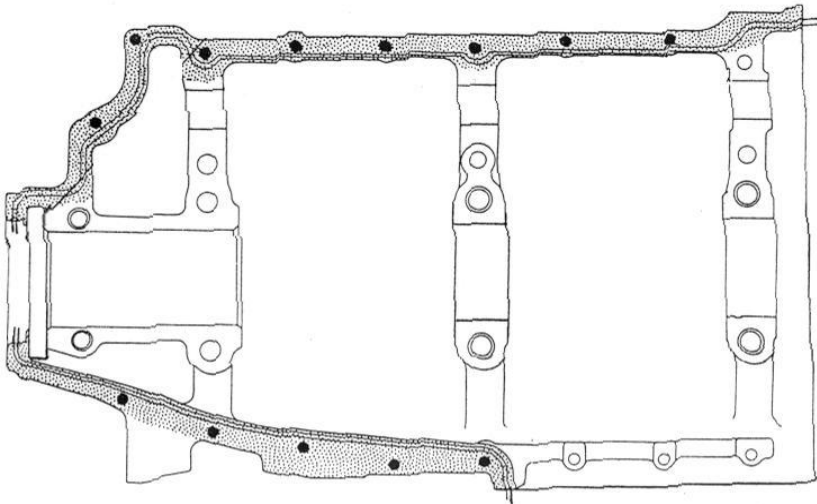

Figure 70
- (1) Apply a thin layer of non-hardening gasket material such as POB #4 Perfect Seal gasket compound or equivalent to the outside mating surfaces of each crankcase half (darker area shown in Figure 70.)
- (2) Measure and cut a total of four continuous lengths of "00" silk threads (four for only one crankcase half). Two of the lengths will extend along the entire length of the top of the crankcase flange as shown in Figure 70, and two silk thread lengths will be shorter to cover the distance shown on the bottom flange of the same crankcase half. Do not apply silk thread pairs to both crankcase halves.
⚠ CAUTION: TO ENSURE CORRECT SEALING, MAKE SURE THE SILK THREADS RUN THE LENGTH, AS A CONTINUOUS PIECE, OF THE INSIDE OF THE CRANKCASE FLANGE (FIGURE 70) AND THERE ARE NO BREAKS IN THE ANY OF THE THREADS. BREAKS IN THE SILK THREAD CAN CAUSE THE CRANKCASE TO LEAK. MAKE SURE THE THREADS DO NOT CROSS OVER OR LAY OVER EACH OTHER (FIGURE 71) OR COVER A HOLE IN THE CRANKCASE FLANGE.
- (3) Press two lengths of "00" silk threads in the gasket compound on the top and bottom flange sides (of the crankcase half) (Figure 70) firmly in the gasket compound where both silk threads are oriented in the area between the bolt holes and the inside flange edge of the crankcase half (approximately between 0.020 to 0.040 in. (0.508 to 1.106 mm) apart as shown in Figure 71. Make sure that the silk thread lengths do not touch or cross over one another or cover a bolt hole.